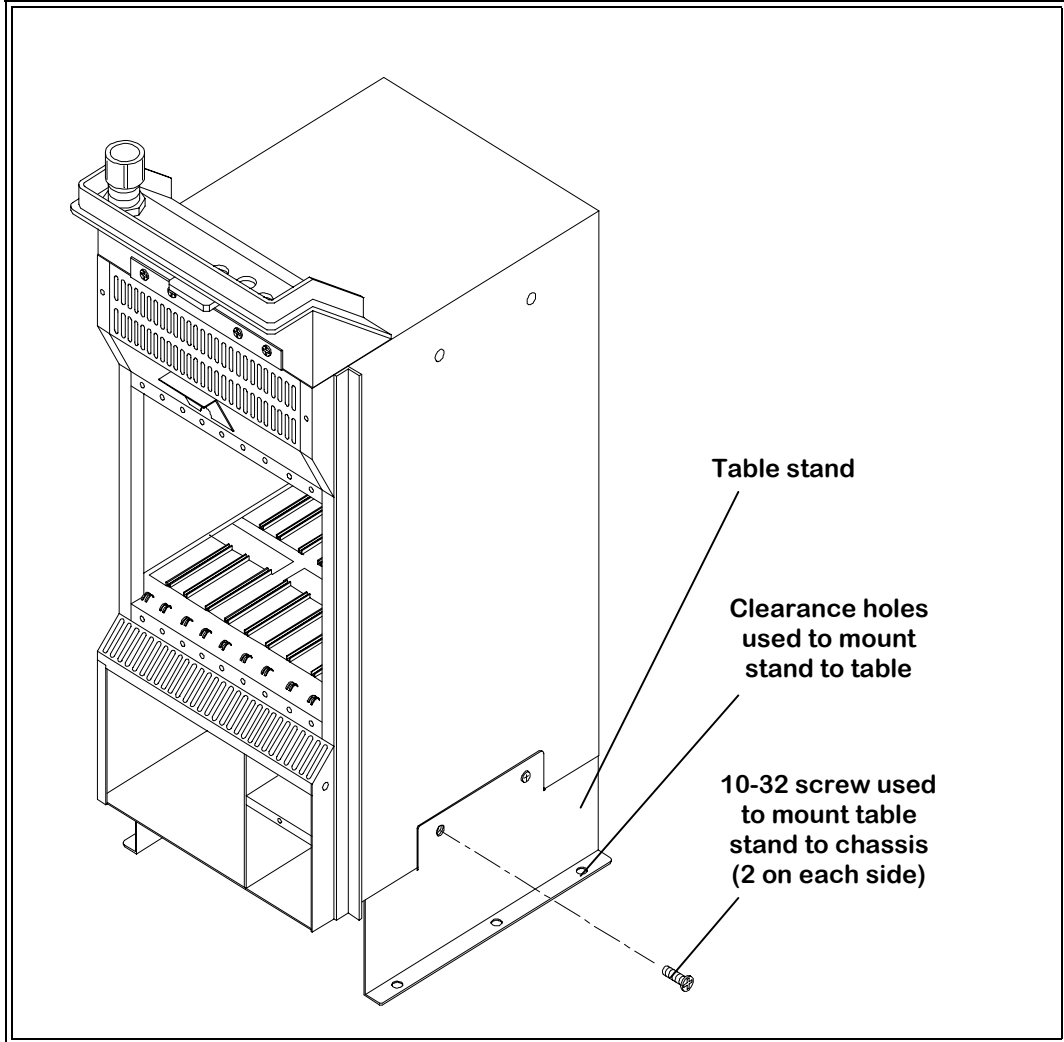

Figure 3-5: Attaching the BTS to the table stand
- Step 5** Thread a 10-32 screw with a washer through each of the stand's clearance holes and into the tapped holes of the BTS. Tighten the screws down as shown in Figure 3-5 : "Attaching the BTS to the table stand" on page 34.